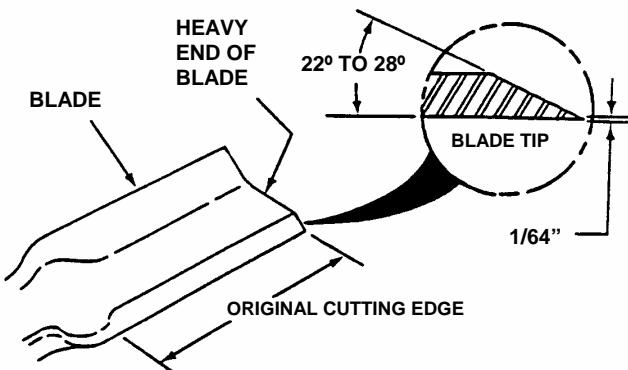

FIGURE 7.5
5. Should Blades be in acceptable condition, sharpen at 22 to 28 degrees. DO NOT sharpen beyond original cutting edge. See Figure 7.5.